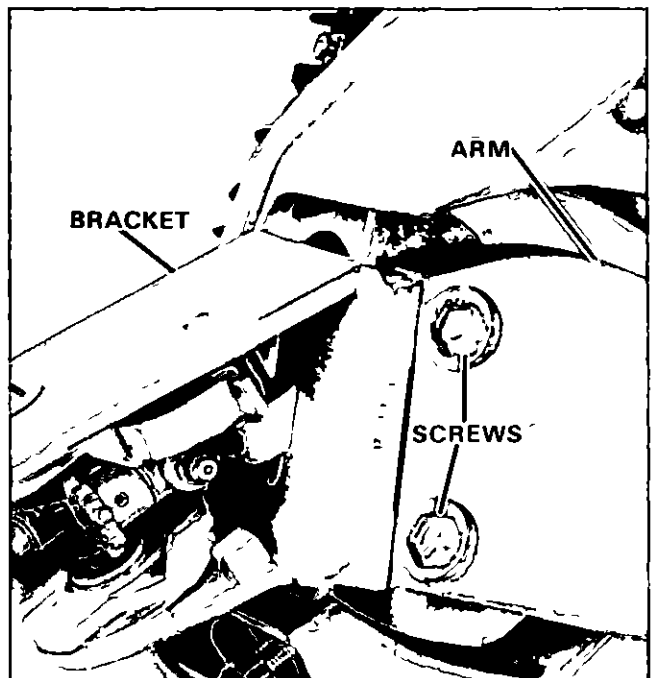

Figure 2. Disconnecting Steering Arm from Bracket.
A Remove two (2) cap screws and lockwashers securing steering handle bracket to steering arm Figure 2